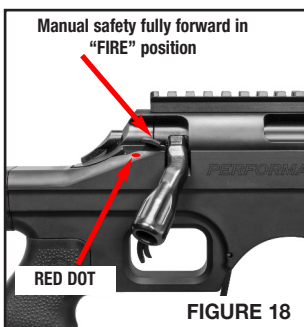

FIGURE 18
- Fully forward in the - “FIRE” position (FIGURE 18) where the red dot on the stock is now visible and the firearm can be fired by pulling the trigger rearward.